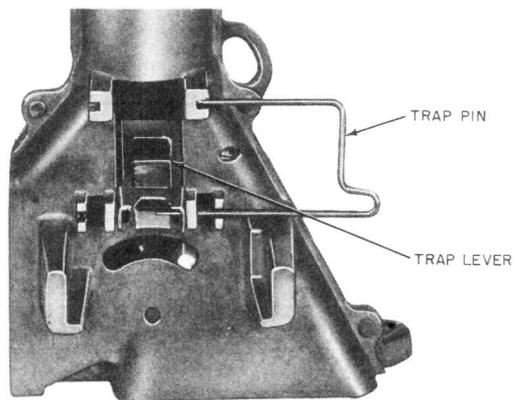

Fig. 41—Placing Trap Lever Pin on Hopper
- (1) Partially insert trap pin into hole in hopper (Fig. 41) and place trap lever on trap pin.